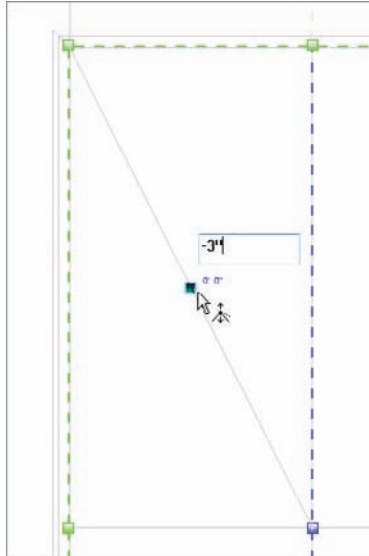

FIGURE 7.14 Click here to taper the roof to this point.
- 26.** Pick the point that you just added. Notice that a blue elevation shows up, as shown in Figure 7.14. Click the elevation, and type $-3''$ (-75mm).